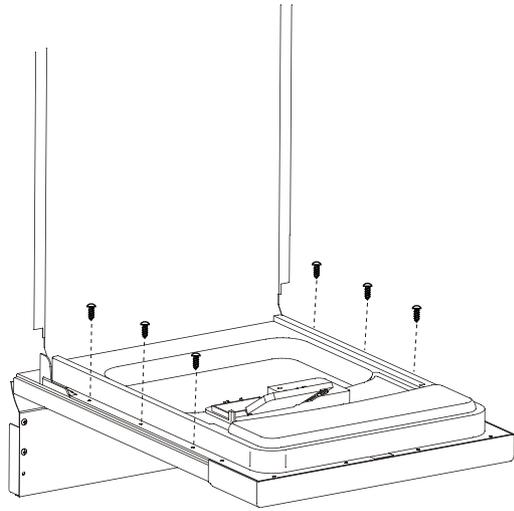

Figure 2
- Remove the 6 Phillips head screws along the side of the door (Figure 2) holding the inner door to the outer panel. Retain screws.